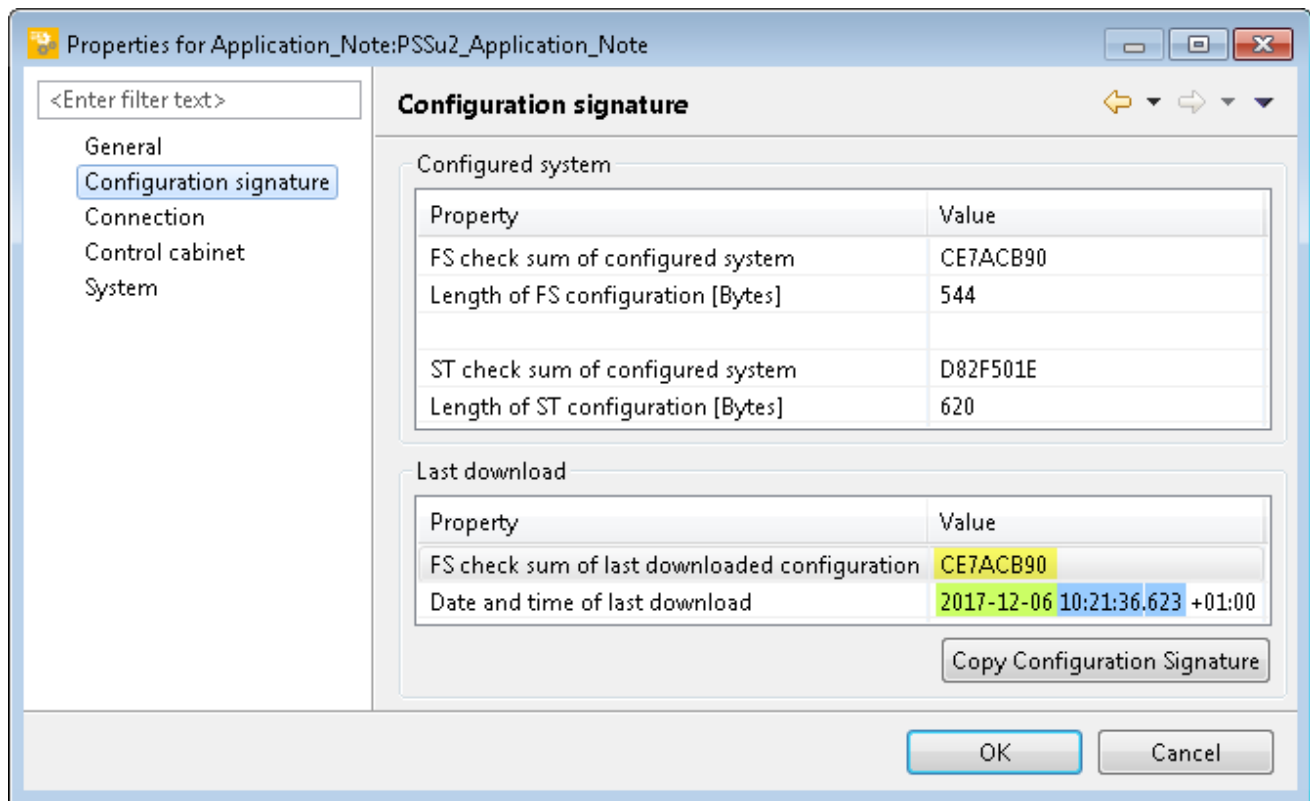

Figure 38: PASconfig – Configuration Signature (Part 2)
- ▶ You can read in the following information (Figure 38):